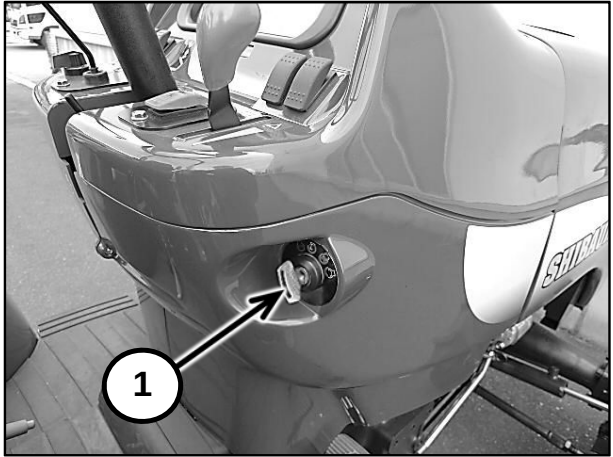

Figure 2-9
The key switch (1) in figure 2-9, is located on the right-hand side of the console, just below the hand throttle. Turning the key clockwise, to the "ON" position, activates the warning lights and instruments. The pre-heat system is activated when the key is turned farther clockwise to the "HEAT" position, and the engine starts when the key is turned to the extreme right. The key spring returns to the "ON" position when released.